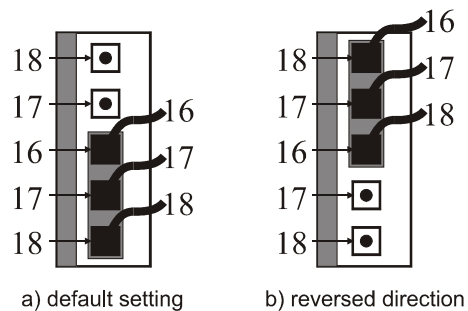

Fig. 6. Replugging the feedback potentiometer's cables
3. Replug the feedback potentiometer's cables as shown in Fig. 6.